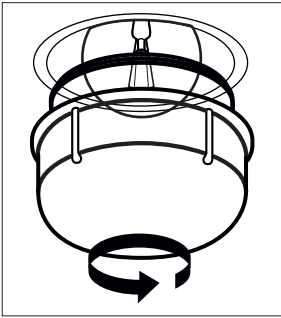

Figure 19
2. Remove the glass protection by turning it counterclockwise (see figure 19). Using plastic gloves may help you if you have difficulty in rotating it.